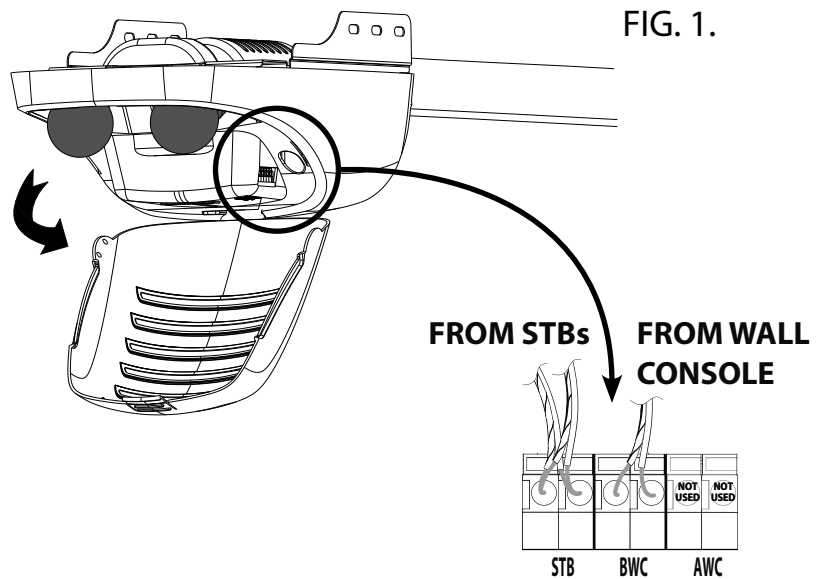

FIG. 2.
6. Remove two 5/16" screws securing powerhead cover to chassis. FIG. 2.